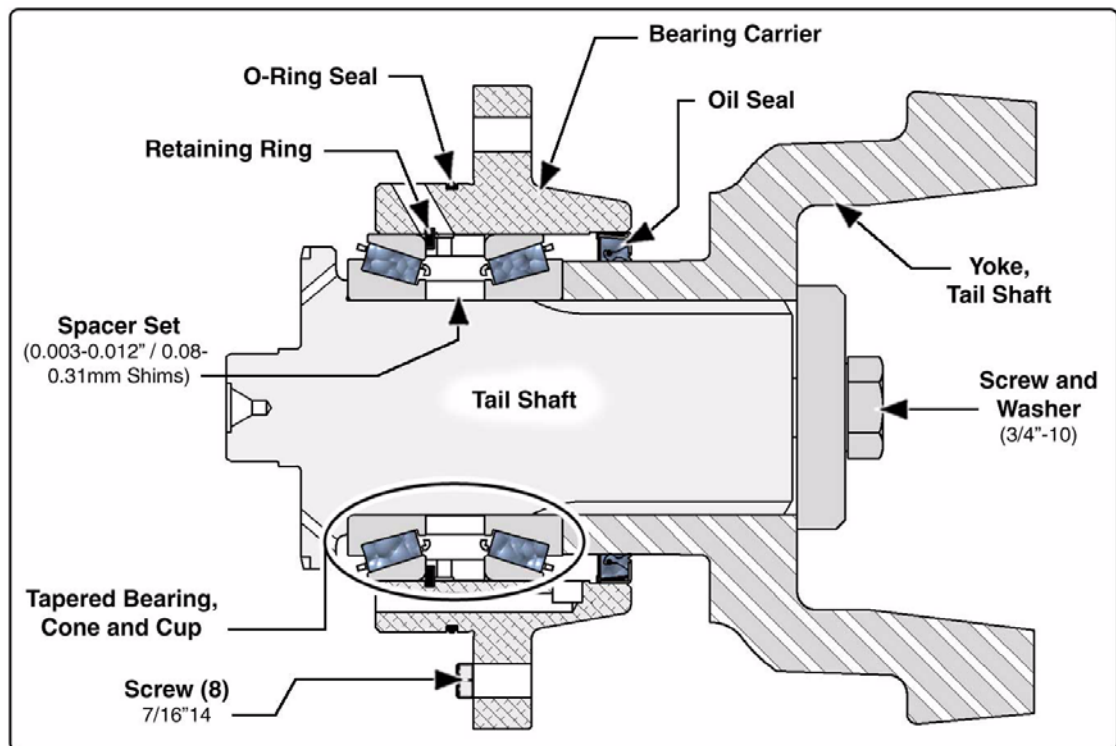

Figure 9-7: Tail Shaft Assembly
See Figure 9-7, "Tail Shaft Assembly," on page 162
3. To the tail shaft, press on the roller bearing inner race (see Figure 9-7: above).